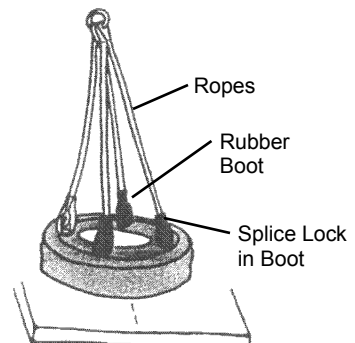

Fig. 4
6. Before fastening eye bolts 2, 3, and 4 make sure the ropes are not crossed or twisted (see fig. 4). The two outside ropes go to opposite sides and the two inside ropes go to opposite sides. Follow the diagram and repeat step 5 on the other eye bolts.